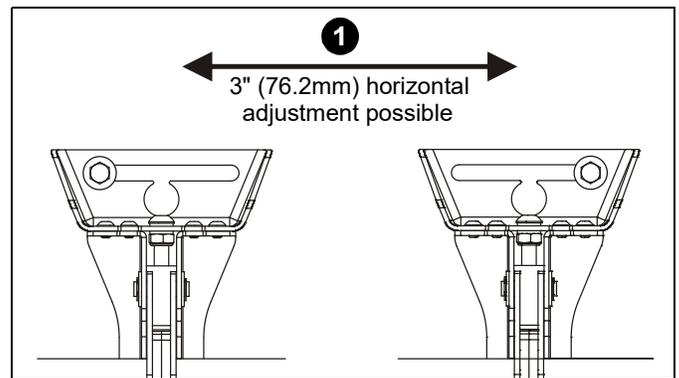

Figure 17
1. The mount wall brackets may be adjusted side-to-side at the point of attachment. (See Figure 17)